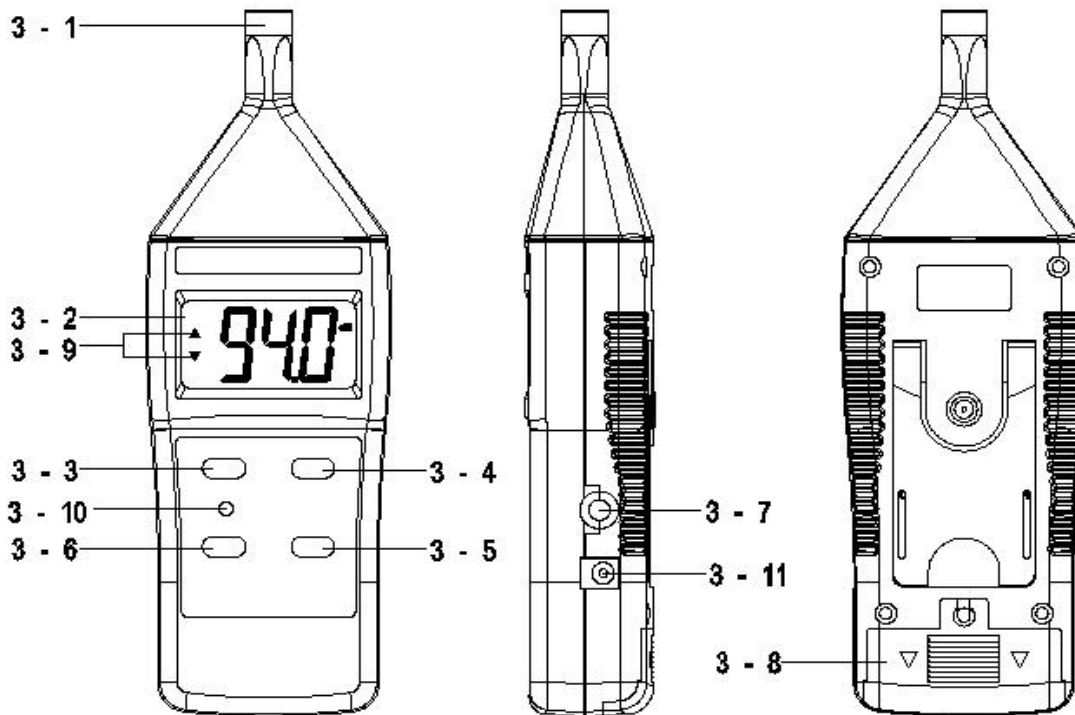

Fig. 1
1) Slide the " A/C weighting selector " (3-4, Fig. 1) to " A " or " C " position for sound level measuring.
2) Determine proper measuring range by selecting the " Range selector " (3-6) to minimize the tolerance of readout. When left corner of LCD show " ▲ " or " ▼ " (Range upper/lower indicator, 3-9, Fig. 1), it shows the dB range selection is upper or lower setting. Slide range selector to other range for measuring.
3) According on various measuring sound source, select the " Time Weighting selector " (3-5, Fig. 1) to " Fast " or " Slow " position.
- 5) Max. hold - During the sound level measurement, if need to store the maximum (peak) value on display, please slide the " Time weighting/ Max. hold selector " (3-5, Fig. 1) to the " Max. hold " position.
The instrument is provided an " Signal output terminal (3.5 mm dia. phone socket) " (3-7, Fig. 1) terminal for connection with analyzer, level recorder, tape recorder, controller...etc. Slide Power switch & Output type selector (3-3, Fig. 1) to AC output or DC output according the user requirement.
- 2) Slide the Battery Cover (3-8, Fig. 1) & take the battery away from the battery compartment..
The sound level meter is built in the internal " Calibration VR " (3-10, Fig. 1) on the front panel. Please according the following procedures to calibrate the instrument accurately, if it is necessary.
- 1) Prepare the optional " Sound Calibrator, model : SC-941 or SC-942 ". Power on the Sound calibrator & plug calibrator output into the " Electric microphone " (3-1, Fig. 1) of the Sound Level Meter.
- 2) Slide the Range selector (3-6, Fig. 1) to " 50 - 100 dB " position.
- 3) Slide " Time Weighting selector " (3-5, Fig. 1) to " SLOW " position.
- 4) Slide the " A/C weighting & Calibration selector " (3-4, Fig. 1) to " A weighting " position.
- 5) Carefully adjust the " Calibration VR " (3-10, Fig. 1) with " - " screw driver, until the display read within " 94.0 ± 0.2 " dB.